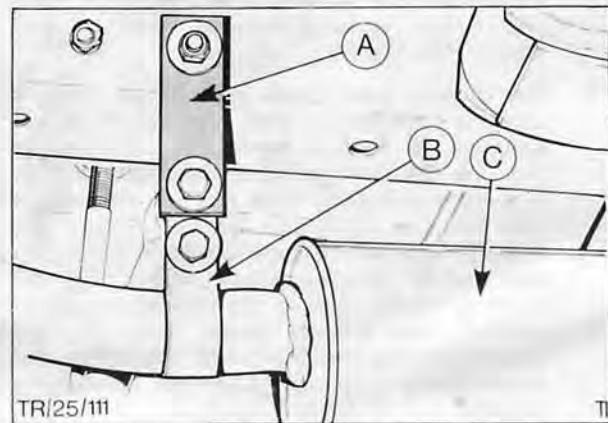

Fig. 16. Rear support of rear muffler section
14. Connect the two remaining support straps but only loosely tighten the nuts and bolts, Figs. 16 and 17.
3. Remove lower bolt from both support straps, OHC variants only. This allows free movement of the rear pipe, Figs. 16 and 17.